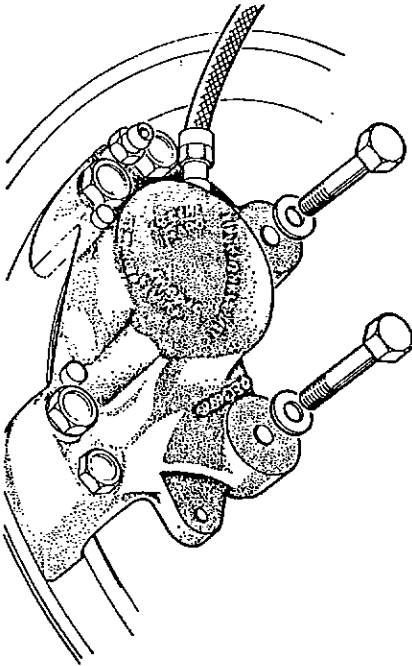

Fig. 41. Caliper Securing Bolts
2. Without disturbing the hydraulic pipe unions unscrew the caliper securing bolt (fig. 41), lift the caliper from the disc tying it to a convenient point to prevent it hanging by the attached hydraulic pipe. Note the number of shims fitted between the caliper and the vertical link.